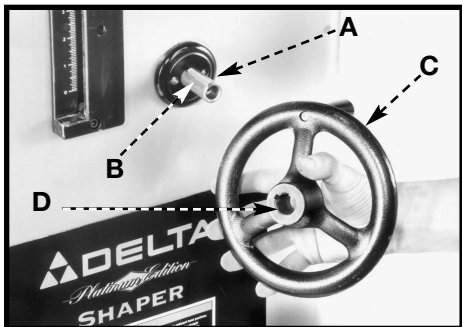

Fig. 1
1. Insert the key (A) Fig. 1 into the slot in the spindle raising and lowering shaft (B).
2. Place the handwheel (C) Fig. 1 on the spindle shaft (B). Fit the key (A) into the slot (D) in the handwheel. Insert the set screw that holds the handwheel to the shaft. Tighten the screw firmly against the key.